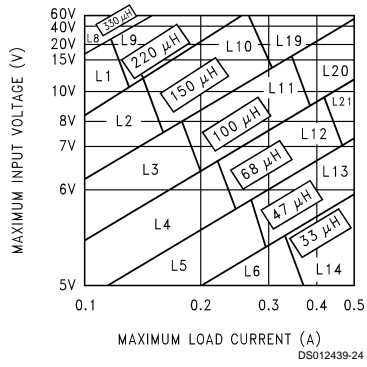
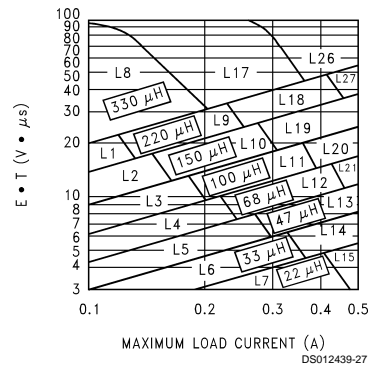
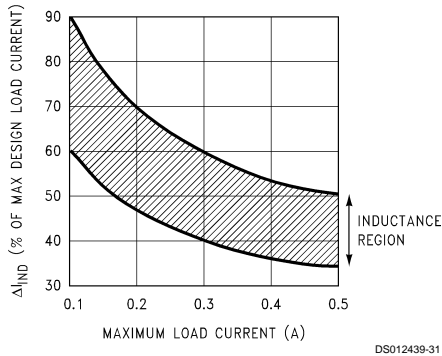

FIGURE 4. LM2594/LM2594HV-3.3
FIGURE 7. LM2594/LM2594HV-ADJ
FIGURE 16. (ΔI_{IND}) Peak-to-Peak Inductor Ripple Current (as a Percentage of the Load Current) vs Load Current
B. Use the $E \cdot T$ value from the previous formula and match it with the $E \cdot T$ number on the vertical axis of the Inductor Value Selection Guide shown in *Figure 7*.
D. From the inductor value selection guide shown in *Figure 7*, the inductance region intersected by the 35 ($V \cdot \mu s$) horizontal line and the 0.5A vertical line is 150 μH , and the inductor code is L19.
To simplify the inductor selection process, an inductor selection guide (nomograph) was designed (see *Figure 4* through *Figure 7*). This guide assumes that the regulator is operating in the continuous mode, and selects an inductor that will allow a peak-to-peak inductor ripple current to be a certain percentage of the maximum design load current. This peak-to-peak inductor ripple current percentage is not fixed, but is allowed to change as different design load currents are selected. (See *Figure 16*.)